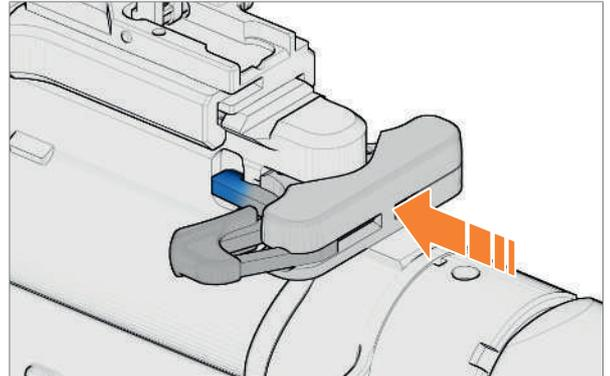

Fig. 22: Lock charging handle
- › Push charging handle all the way forwards and lock it (Fig. 22).